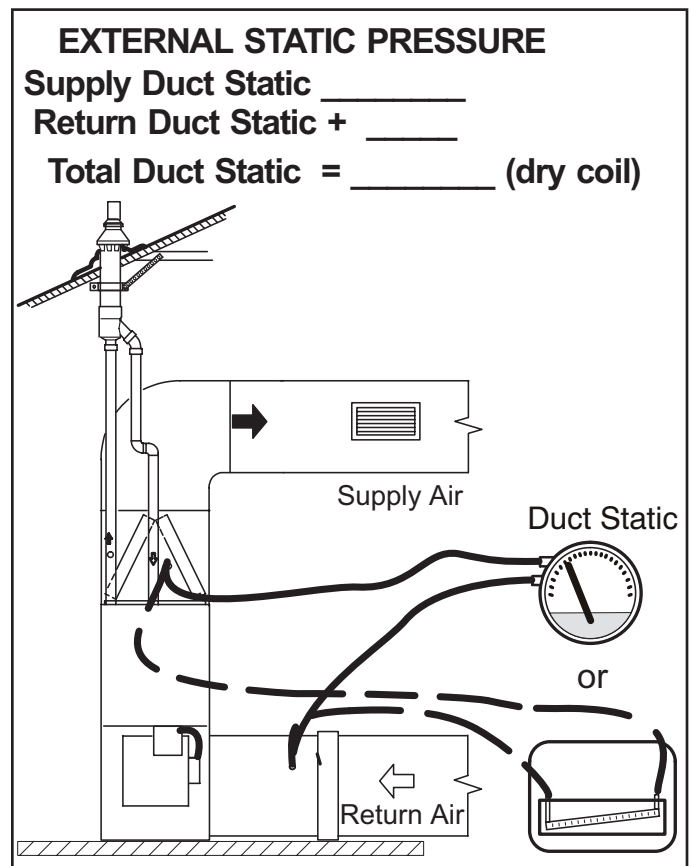

FIGURE 24
- 1 - Tap locations shown in figure 24 .